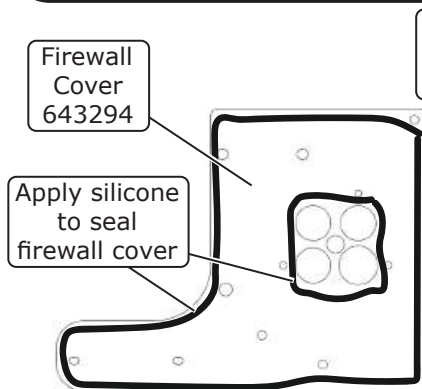

Figure 1
2. Install the firewall cover using only the (2) lower battery tray bolts. Leave the bolts loose. May apply silicone to seal the firewall cover as shown in Figure 1, below.